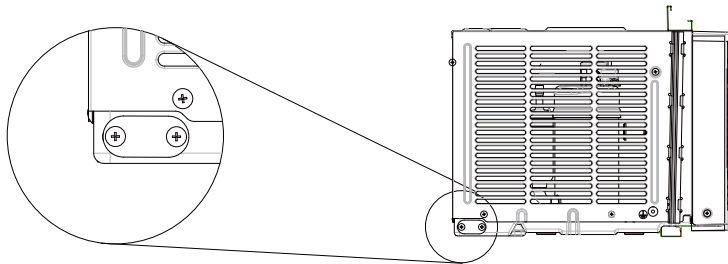

FIG. 15A
1. The air conditioner have the drainage gasket-FIG. 15A.